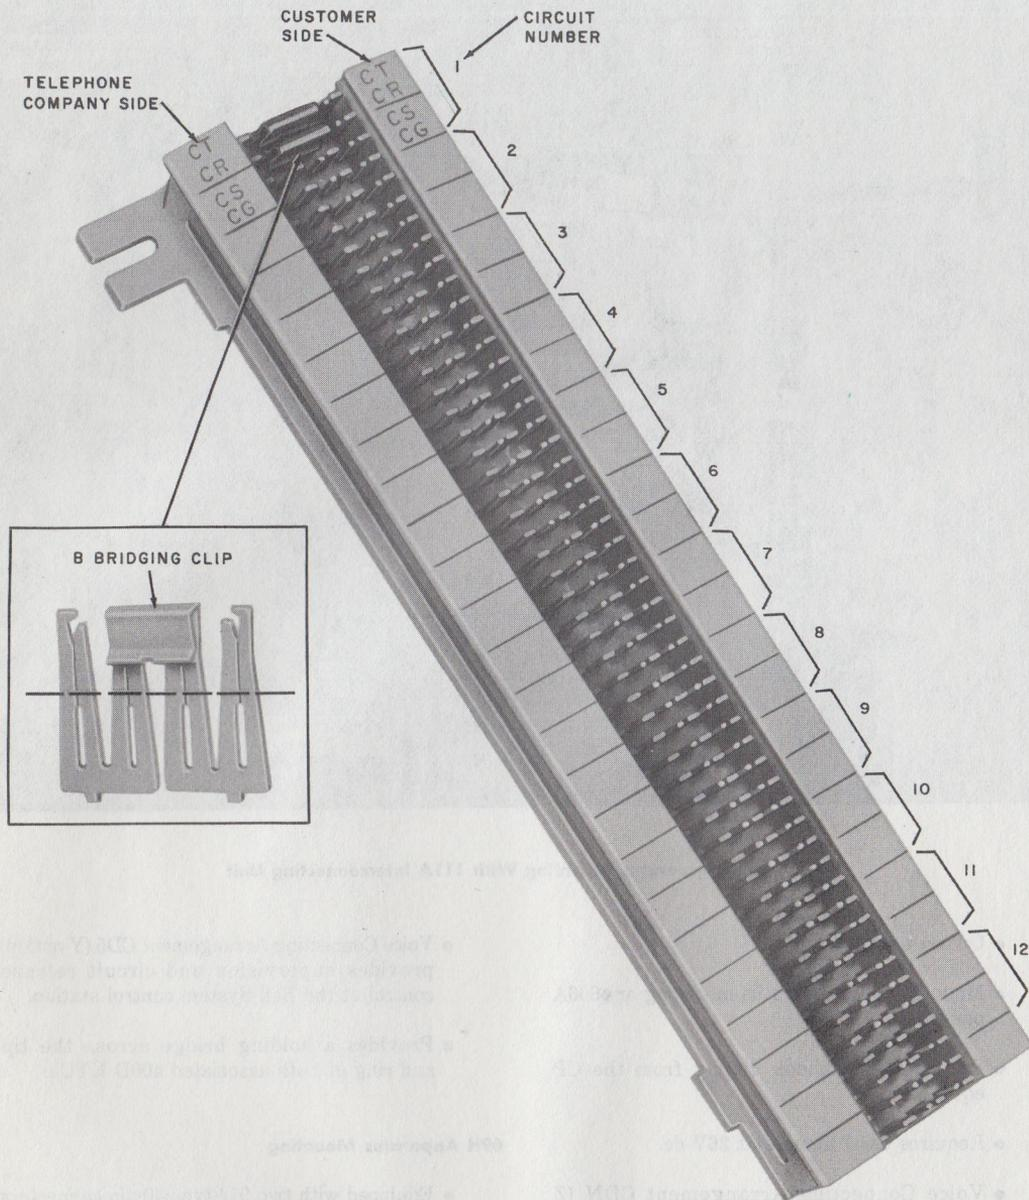

Fig. 3—66M1-50 Interface Connecting Block
- Block, Connecting, 66M1-50 (as required, Fig. 3).
- Clip, Bridging, B (as required, Fig. 3).
- 3.05** Leads associated with each circuit to a CP intercom line should be terminated on a 66M1-50 connecting block and lead designations should be stenciled (Fig. 3).
3.11 Extend leads to the CP equipment from the 66B4-25 connecting block and 400D KTU No. 2 to the 66M1-50 interface connecting block. Stencil lead designations on the fanning strip of the 66M1-50 interface connecting block, Fig. 3.
3.17 Extend leads to the CP equipment from the 66B4-25 and 400D No. 2 to the 66M1-50 interface connecting block. Stencil lead designations on the fanning strip of the connecting block, Fig. 3.